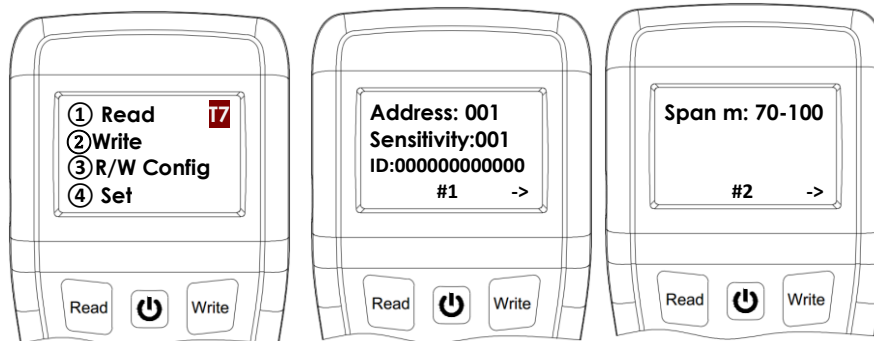

Figure 9
5. Press button “Exit” to clear and exit. (Figure 9)